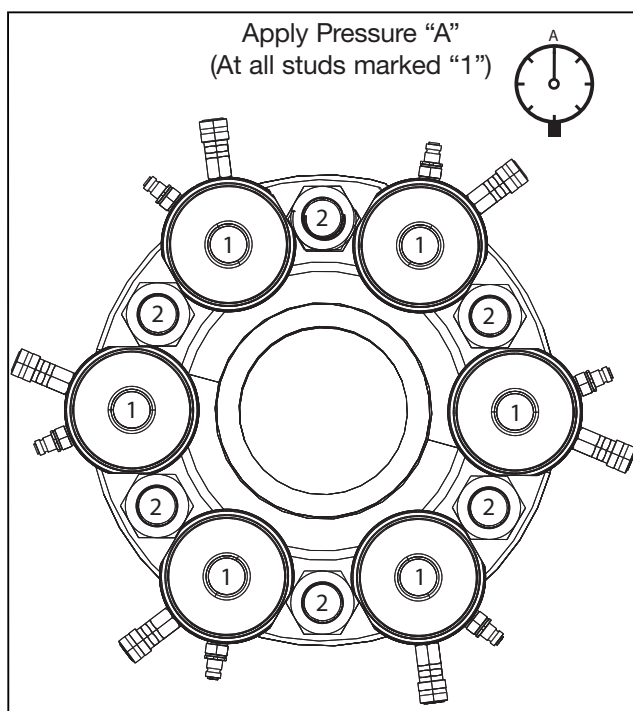

FIGURE 12, TENSIONER ARRANGEMENT,
3. Assemble the tensioner(s) to the studs marked "1" and connect the hydraulic hoses. See Figure 12 for typical tensioner arrangement. Also refer to sections 6.1 and 6.2 for additional tensioner installation and hook-up instructions.